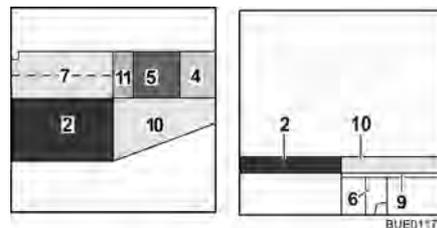

Fig. 123 After conversion
- Place the seat cushion (Fig. 123,5) in the centre.
- Place the back cushion (Fig. 123,4) between the seat cushion and the wall.
- Insert the additional cushion (Fig. 123,11) between the seat cushion (Fig. 123,5) and the additional cushion (Fig. 123,7).
- Place the additional cushion (Fig. 123,10) on the bed widening.